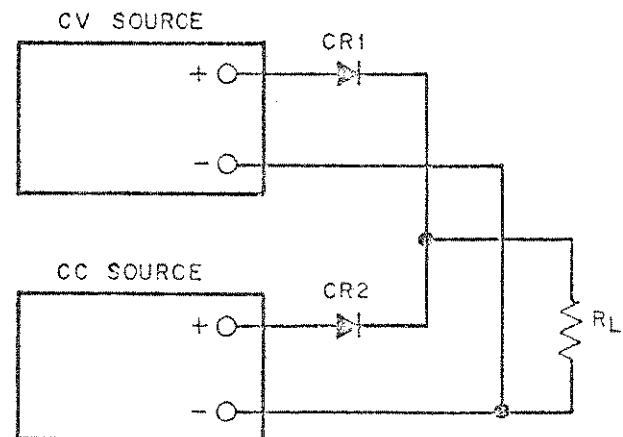

Figure 3-2. Paralleling Two Supplies
Change paragraph 3-13 (parallel operation) to read as follows: Two power supplies can be connected in parallel to obtain a combined output current greater than that available from one supply. The total output current is the sum of the output currents from each individual supply. Since the inputs to the supplies' error amplifiers are not available, the two supplies must be connected in straight parallel with one supply operating as a constant voltage (CV) source and the other supply operating as a constant current (CC) source. To protect the supplies' input voltage amplifiers, diodes CR1 and CR2 are added between the + output terminals and the load as shown in Figure 3-2. If the diodes are not added, damage may occur when one supply is turned off with the voltage controls set for zero volts or to some low value.
- With both supplies turned off, connect the load and the protection diodes as shown in Figure 3-2.